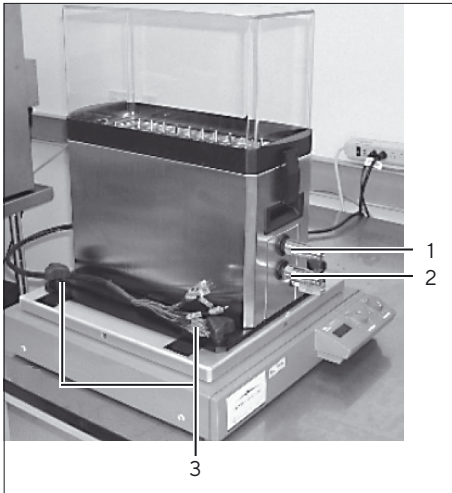

Fig. 7: S³ Module Positioning
- ▶ Place the S³ Module on top of the Cryomixer Jr. as shown in Figure 7 so that the motion of the Cryomixer Jr. will allow for mixing along the length of a Celsius[®] Pak.